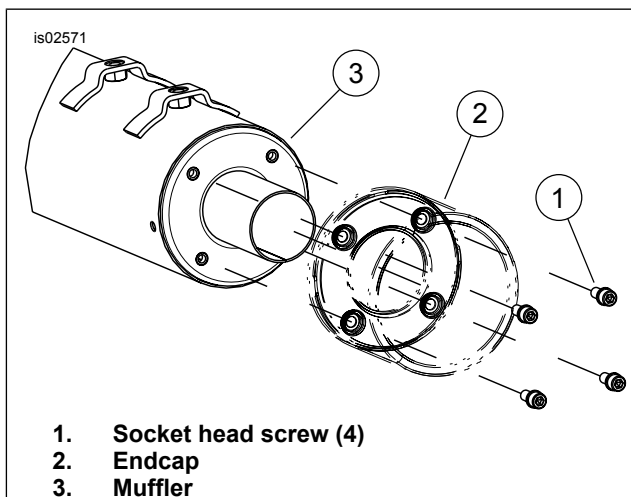

Figure 1. Install Endcap on Muffler
1. See Figure 1. Install end cap to muffler with four socket head screws. Tighten to 9.3–9.7 N·m (82–86 in-lbs).